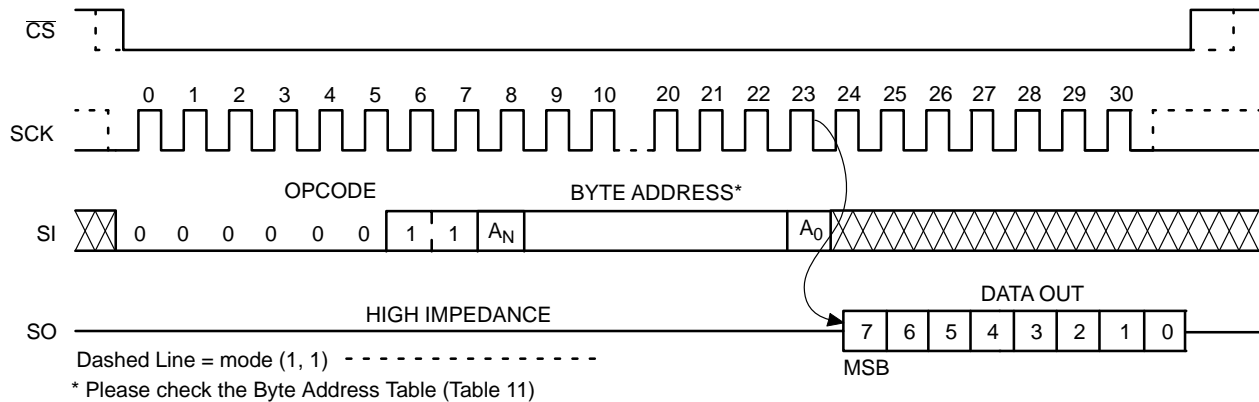

Figure 9. READ Timing
After receiving the last address bit, the CAT25512 will respond by shifting out data on the SO pin (as shown in Figure 9). Sequentially stored data can be read out by simply continuing to run the clock. The internal address pointer is automatically incremented to the next higher address as data is shifted out. After reaching the highest memory address, the address counter “rolls over” to the lowest memory address, and the read cycle can be continued indefinitely. The read operation is terminated by taking  $\overline{CS}$  high.
Reading the additional 128-byte Identification Page (IP) is achieved using the same Read command sequence as used for Read from main memory array (Figure 9). **The IPL bit from the Status Register must be set (IPL = 1) before attempting to read from the IP.** The [A6:A0] are the address significant bits that point to the data byte shifted out on the